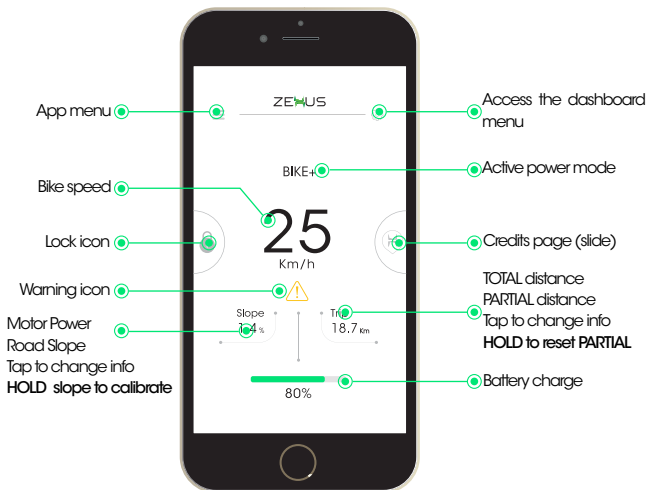

Figure 7: **bitride** dashboard for **BIKE+ all in one**
4.1 Using the dashboard (see Figure 7)